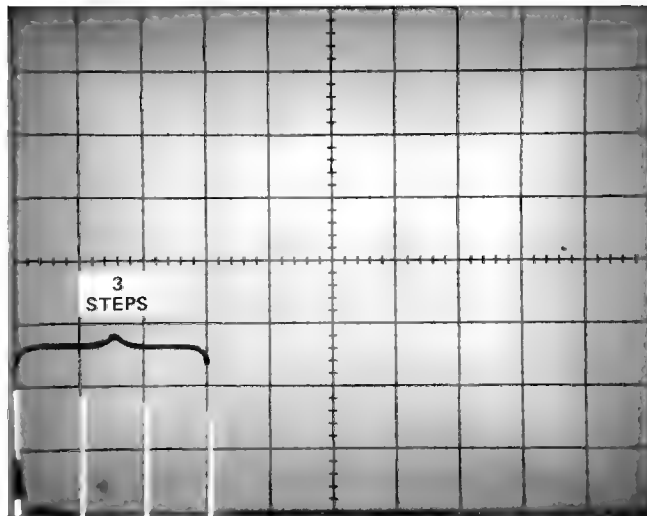

Fig. 5-7. Typical display illustrating step g.
g. CHECK—The display should resemble that of Fig. 5-7.